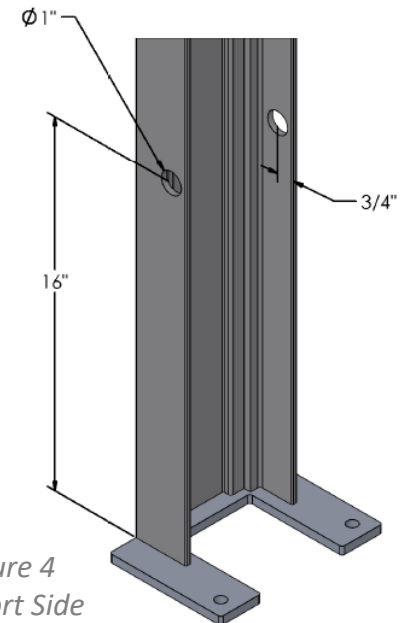

Figure 4
5. Drill a 1" hole to create an access holes through both sides of the front support side post channel & the rear support side post channel approximately 16" from the floor and 3/4" from the front face of the channel as shown in *Figure 4*.